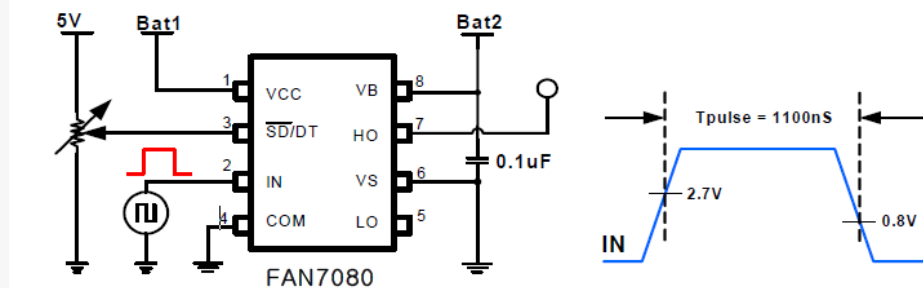

Figure 5. Short Pulse Width Test Circuit and Pulse Width Waveform
6. When $V_{DT} = 1.2$ V. Refer to Figures 5, 6, 7 and 8.